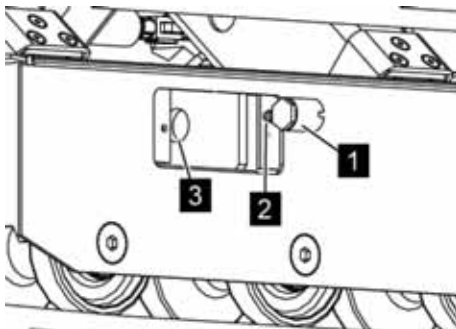

Fig. 128: Put back the slide coupling
4. ➔ Push the slide coupling (Fig. 128/1) with the grease nipple (Fig. 128/2) in front onto the grease tension cylinder (Fig. 128/3).